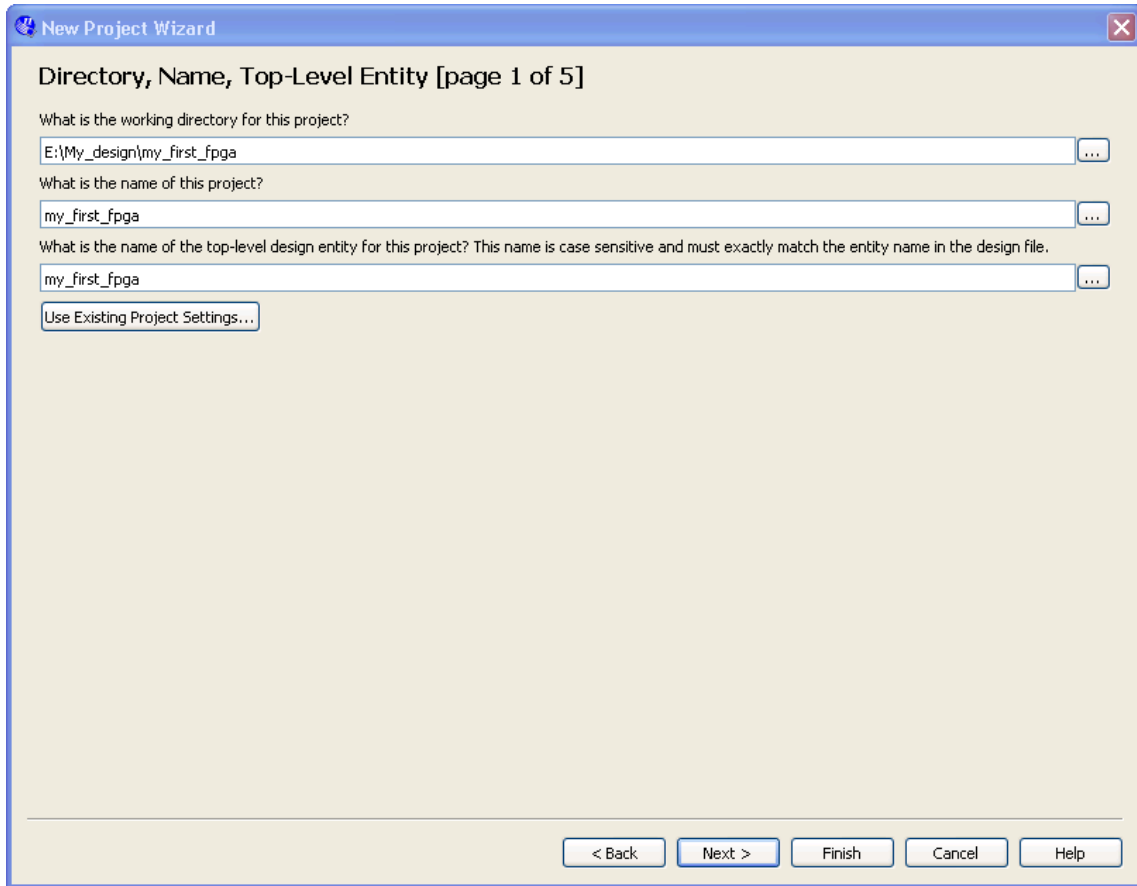

Figure 6-9 Project information
- e. What is the name of the top-level design entity for this project? Type my_first_fpga. See **Figure 6-9**.